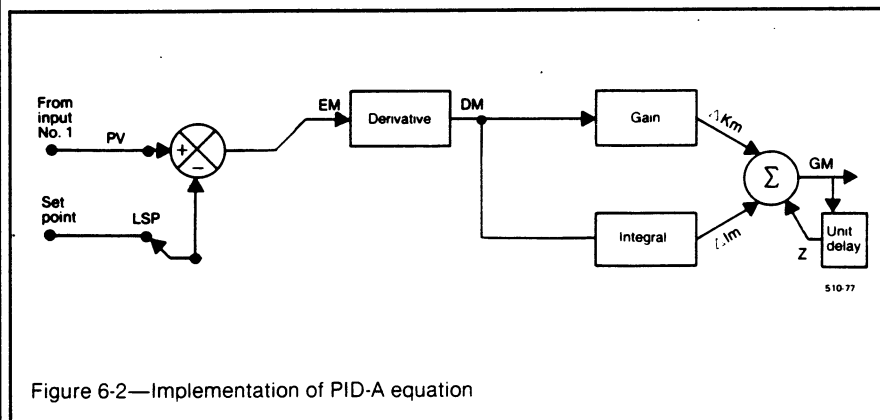

Figure 6-2—Implementation of PID-A equation
In the "A" form of the PID equation, all three modes—proportional, integral, and derivative—act on the error. Figure 6-2 shows the implementation of the difference equations for the three modes when all three are active. As shown in the diagram, the process variable (PV) is compared with the present set point to obtain the present error (EM). The present error is then applied to the derivative block which contributes a rate action component to the signal. The present output from the derivative block (DM) is then simultaneously applied to the gain and integral blocks to separately include these functions in the signal. The present changes in output from the gain block (ΔK_m) is then combined with the present change from the integral block (ΔI_m) to obtain the present output error (GM) from the PID algorithm.